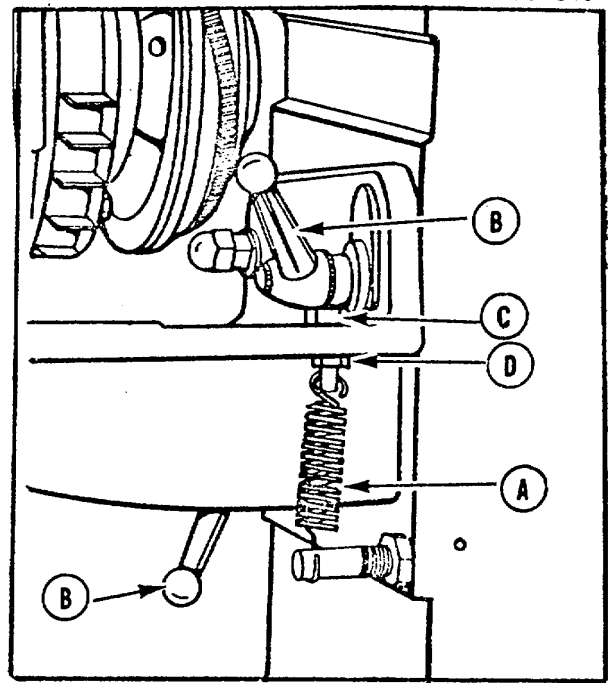

Fig. 15.
The belt tensioning spring (A) Fig. 15, is adjusted at the factory to supply correct belt tension (5/64" deflection with five pounds thumb pressure in center of span) for the motor to countershaft belt. If the belt tensioning spring ever needs to be adjusted to increase or decrease tension of the belt, proceed as follows:
1. Loosen the motor plate clamping levers (B) Fig. 15.
2. To increase tension, loosen nut (D) Fig. 15, and tighten nut (C) until correct tension is obtained.
3. To decrease tension, loosen nut (C) Fig. 15, until correct tension is obtained and tighten nut (D).